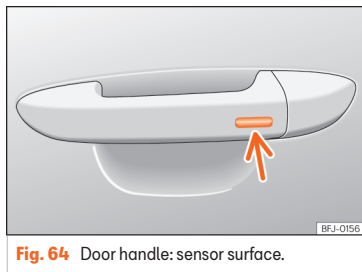

Fig. 64 Door handle: sensor surface.
- **OR:** using the Keyless Access system (only locking): Press and hold the locking sensor surface  **Fig. 64** (arrow) on the door handle for several seconds to close the windows and the sunroof. If you stop touching the sensing surface, the locking function is interrupted.
Press and hold the locking sensor surface **>>> Fig. 64** (arrow) on the door handle to close the sunroof. If you stop touching the sensing surface, the locking function is interrupted.